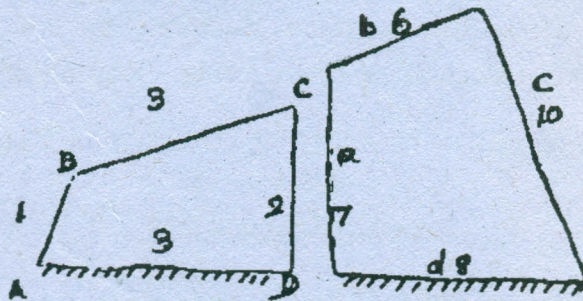

Fig. 2
- (b) (i) Find the maximum and minimum transmission angles for the mechanisms shown in fig.2. The figures indicate the dimensions in standard units of length. (8)